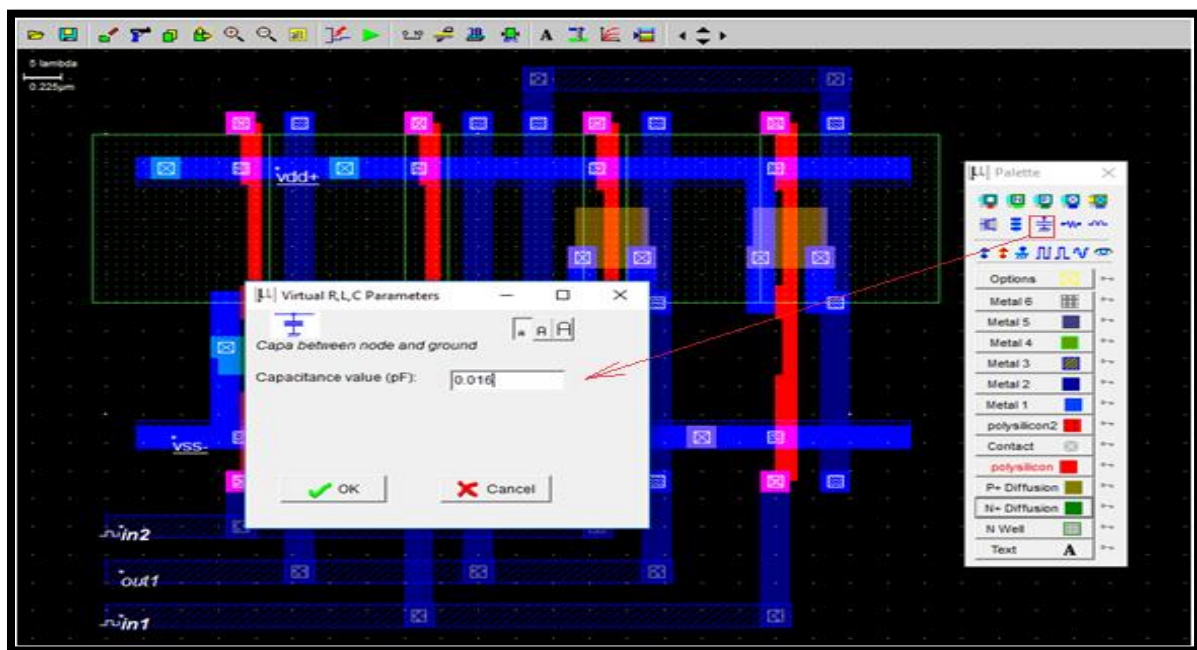

Figure 31:capacitor insertion
- Click on the label marked in1 (first input). A window appears. Click on the PWL option in the window. Insert a 01 sequence for that specific input and click on Insert. Then click on Assign. Perform this assignment on the other inputs. See figure 31: